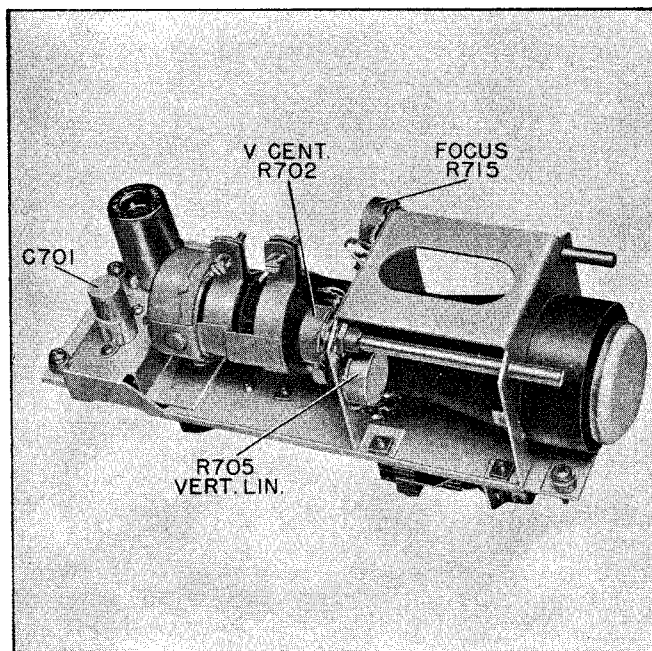

Figure 7-7. Tuning Monitor Chassis, Top View
d. TUNING MONITOR.—See Figures 7-7 and 7-8. Circuit check (resistance and continuity) and tube replacement will locate troubles in the Tuning Monitor. See Table 7-7 for the resistance measurements. See Figure 7-32 and 7-33 for the schematic and wiring diagrams giving part locations and electrical values.